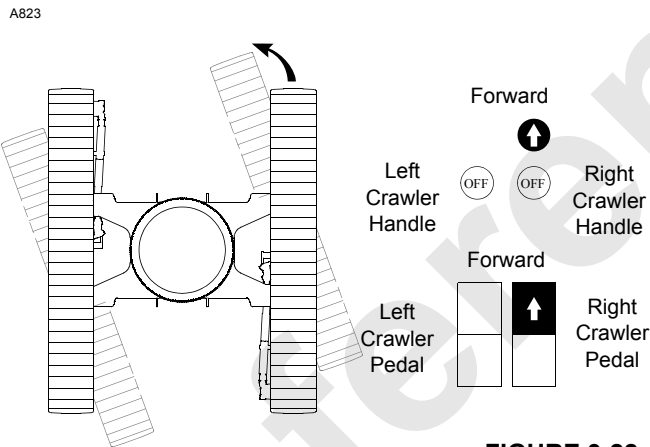

FIGURE 3-22
- Avoid sharp turns (Figure 3-22) if possible.
- To make a SHARP LEFT TURN (Figure 3-22), move right crawler handle/pedal to front from off and leave left crawler handle/pedal in off; crane will pivot about left crawler.